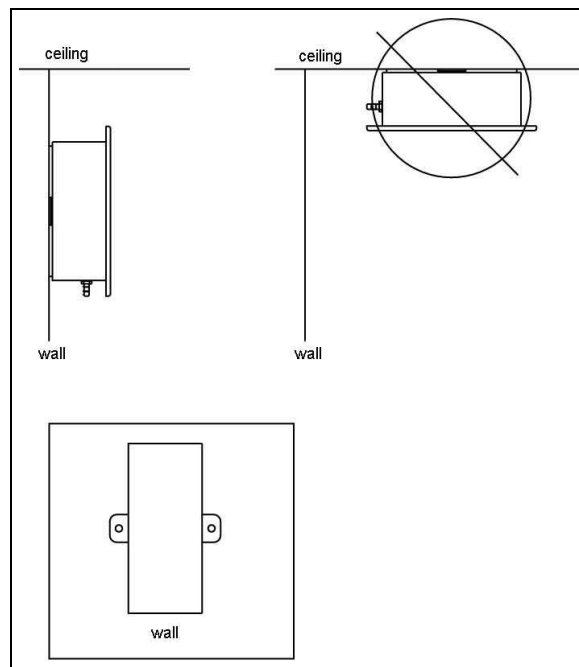

Figure 12: Pressure Transducer Mounting
- Mount the pressure transducer within 10 feet of the flow station. The transducer must be mounted on a wall in the correct position per Figure 12 (screws not provided).